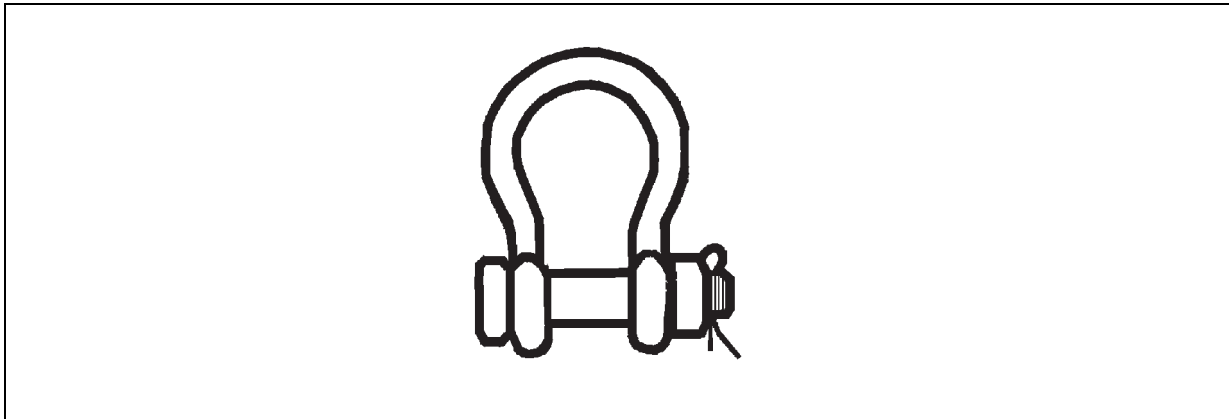

Figure 8-35. Anchor Shackles
- **Anchor Shackles** (figure 8-35). Anchor shackles are used to attach sling legs to equipment that does not have shackles attached to the lift provisions. After installing the shackle, place the nut on the bolt and safety the nut with the cotter pin. This keeps the pin from backing out in flight. The safe working load capacities of several sizes of anchor shackles are listed in table 8-2. The capacity of the anchor shackle is marked on the shackle.